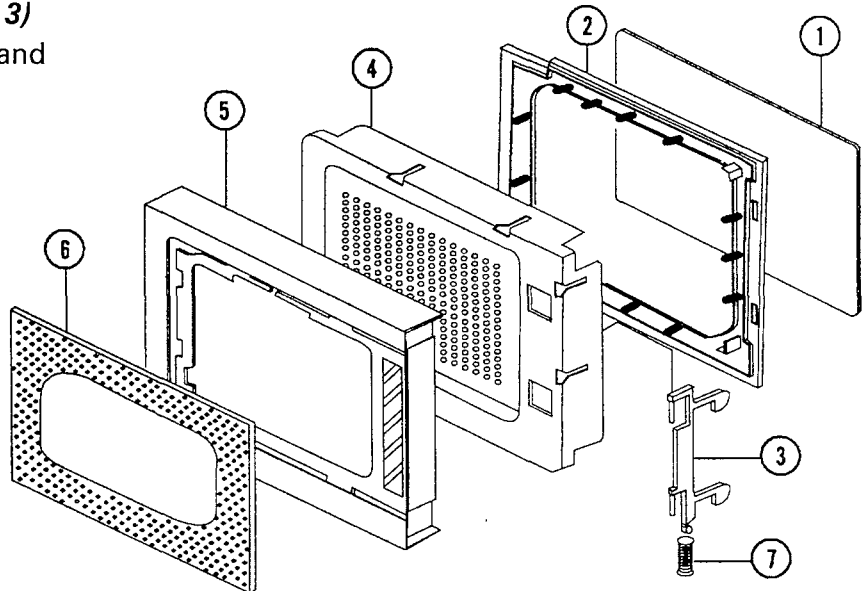

Figure 3
3. To remove door parts. (Figure 3)
- a. Remove the outer plate ⑥ and door frame ⑤.
- b. Remove the microwave absorber ② and film ①.
- c. Remove spring ⑦ and hook ③.